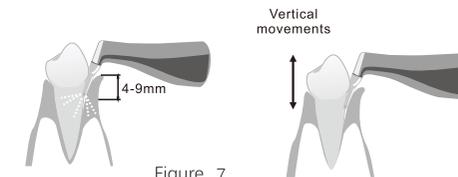

Figure 7
- When normal subgingival sandblasting is performed using the subgingival handpiece, it is recommended to use a nozzle for plaque removal from the subgingival 4 ~ 9 mm periodontal pockets and lift up and down during use, as shown in "Figure 7".